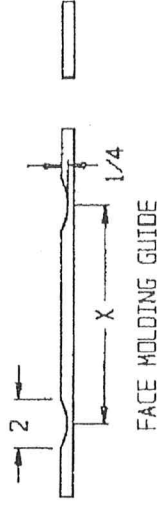

Fig. B-8
- Cut 1/4" deep arcs to allow clearance of the feed rollers (see fig. B-8).